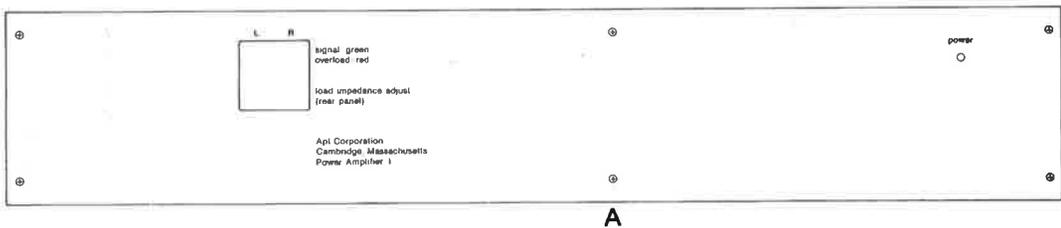
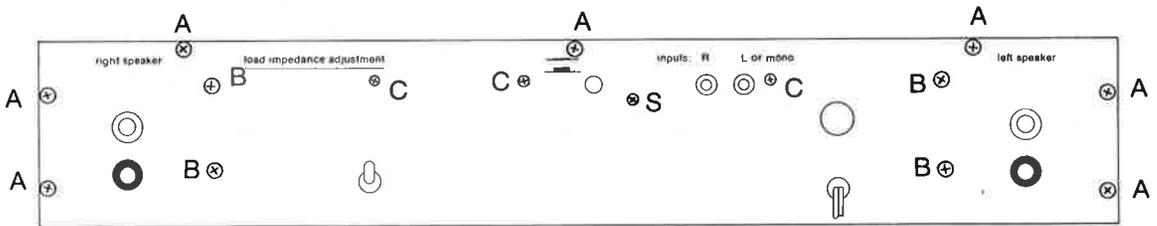

Fig. 6-1. Front Panel.
Fig. 6-2. Back Panel.
- 6.2 Top Cover and Front Panel.** The front panel will never need to be removed separately, except for replacement. Instead, the top cover and front panel should be removed from the amplifier as a unit. Remove the flat 4-40 × 3/8 flat head cap screw marked A in Fig. 6-1 with a 1/16 in. hex driver. Remove the two no. 6 sheet metal screws at each end of the amplifier (not shown) with a no. 2 Phillips driver and the seven no. 6 sheet metal screws marked A in Fig. 6-2. To avoid damage to the LED power indicator, lift the rear of the top cover about half an inch, then lift the cover off. Before proceeding further,
- 11.2.1 Removal of the Original Panel and Top Cover.** Remove the top cover according to section 6.2 (Figs. 6-1 and 6-2). Remove the front panel hex socket screws with the 1/16 in. socket hex key supplied and set them aside. Press the LED (Power indicator) with your thumb, and ease the panel off.